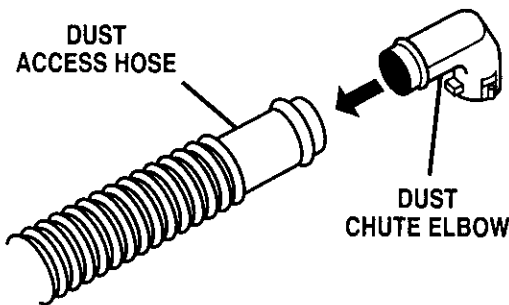

Fig. 2
- Insert the Dust Chute Elbow into the Dust Access Hose until the elbow snaps into place. See Figure 2.